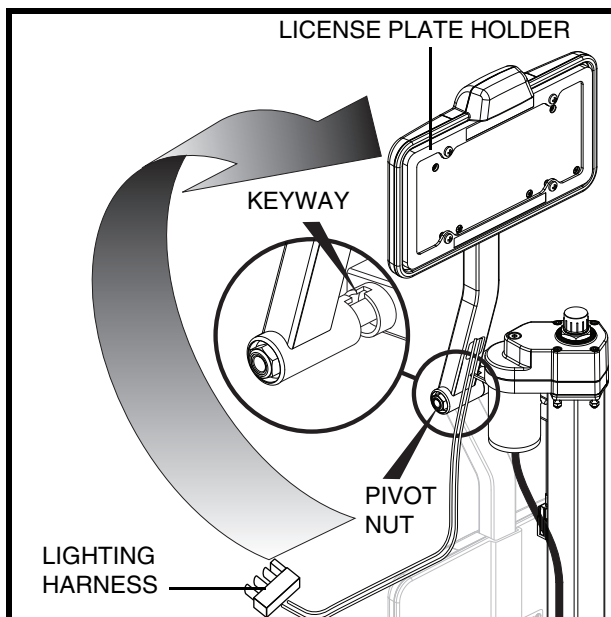

Figure 9. License Plate Holder
The license plate holder should be rotated to the upright position during installation. **See figure 9.**
2. Rotate the license plate holder to its upright position. Once in the upright position, the license plate holder will automatically lock into place. **See figure 9.**